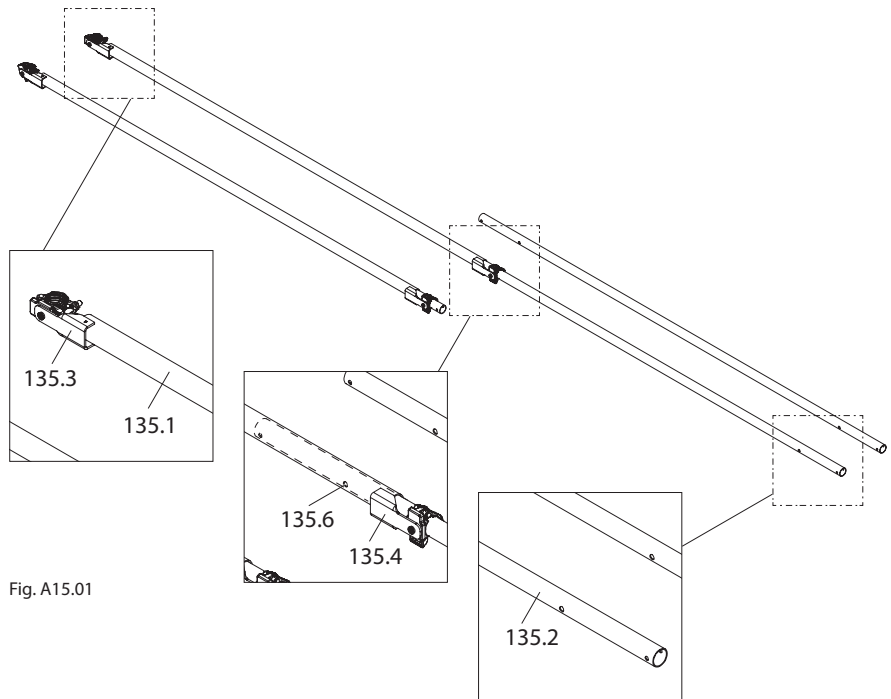

Fig. A15.01
- (Fig. A15.01)
- Maximum extension length 5.60 m. The second hole (135.6) in the inner tube must not be visible and must always be completely covered by the outer tube. (Fig. A15.01)